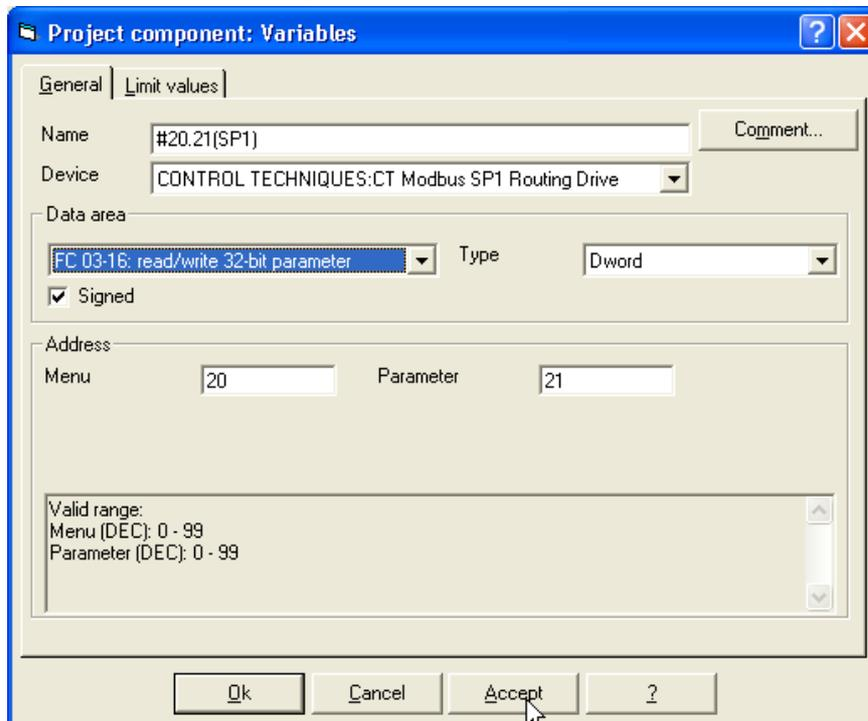

Fig. 12.
3.11 For #20.21(SP1) variable see Fig. 12.